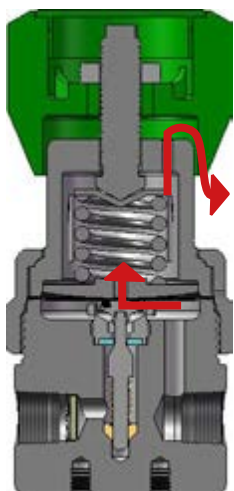

Figure 1: Regulator with open self-venting option
- Harmless medium can be vented out of the casing cap into the surroundings through a drill hole below the handle (open self-venting option). (Figure 1)